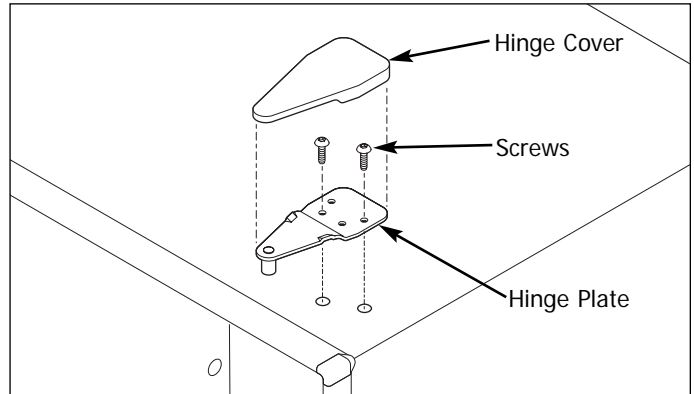

Figure 2-4. Top Hinge Removal
3. Lift plastic cover off upper hinge assembly. (See Figure 2-4)